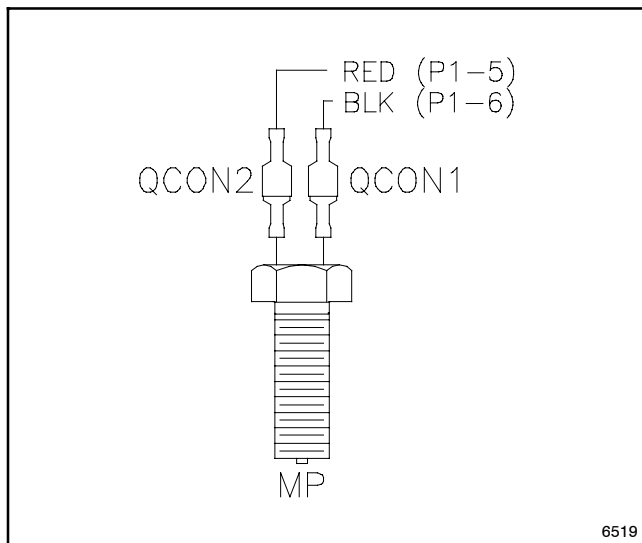

Figure 5-24 Magnetic Pickup Leads
4. Verify the operation of the magnetic pickup by connecting a voltmeter to the magnetic pickup leads. See Figure 5-24.